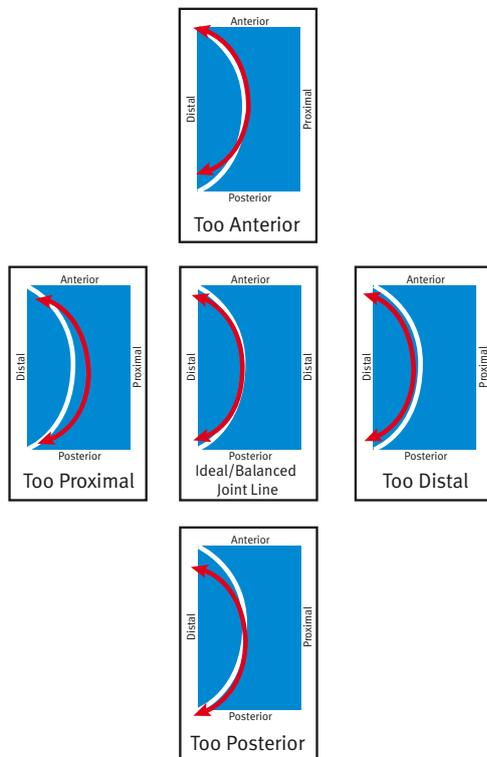

Fig 39 Red line represents the sweeping motion of Center Probe. White line represents Tibial/Talar joint line.
- If necessary, loosen the appropriate locks on the Lateral Cut Guide Assembly and adjust the A/P and/or proximal/distal position until the probe sweep represents an appropriate joint line (Fig. 39). Retighten the locks.